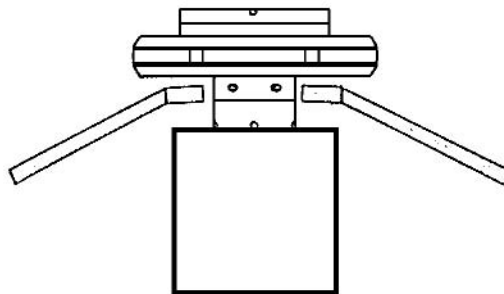

Figure 4: Impeller Removal Example
1) Pull impeller (7) from internal magnet (8). If impeller does not pull off, insert the boxed end of two wrenches between the impeller and the internal magnet. These ends should be cushioned so as not to deform the impeller or the internal magnet. Apply force evenly on the wrenches against impeller to pop the impeller from the internal magnet. Placing the assembly on a raised surface may provide additional leverage (*see figure 4*).